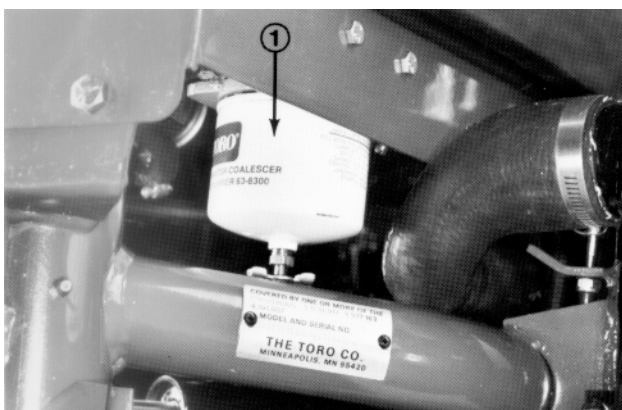

Figure 10
1. Locate the fuel filter/water separator at the right rear under fuel tank (Fig. 10).